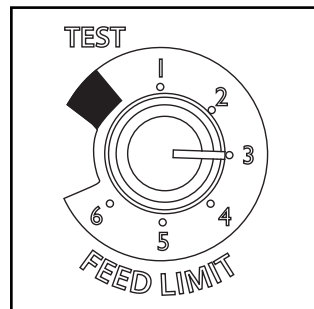

Figure 4.3
3. For your first fire it may be necessary to purge the auger system by putting the feed Limit knob to “Test” prior to starting the unit. Figure 4.3. This insures that plenty of fuel enters the burn pot for proper ignition.